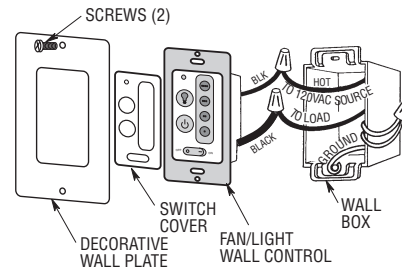

Figure 3
4. Connect one black wire of wall control to the "hot" wire. Securely connect wires with wire connectors supplied (Figure 3).
6. The wall control is supplied with a white, ivory, and almond color switch covers. Choose the finish that best suits your needs and snap the cover onto the wall control (Figure 3).
7. Install decorator wall plate (purchased separately) using the two screws provided with wall plate. Leave wall control in "OFF" mode until fan installation is completed (Figure 3).